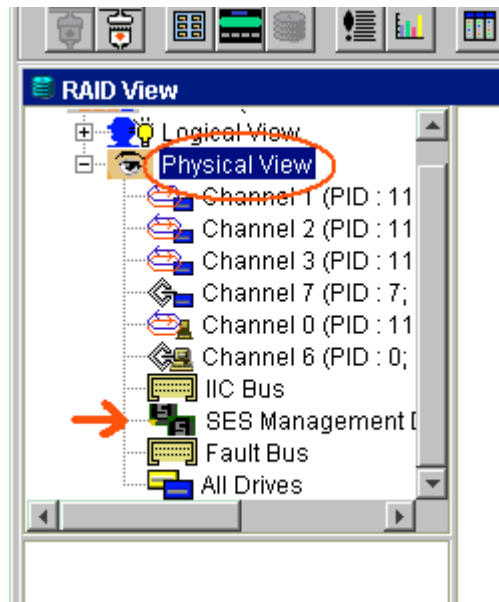

Figure 10-3: Opening SES Fault Management
Step 1. To access the *SES* first, open the *RAIDView* navigation panel by selecting either the *RAIDView* icon in the toolbar or the *RAIDView* command in the “*View*” menu. After opening the *RAIDView* select the *Physical View* icon in the *RAIDView* navigation panel, items shown in *Figure 10-3* should appear.